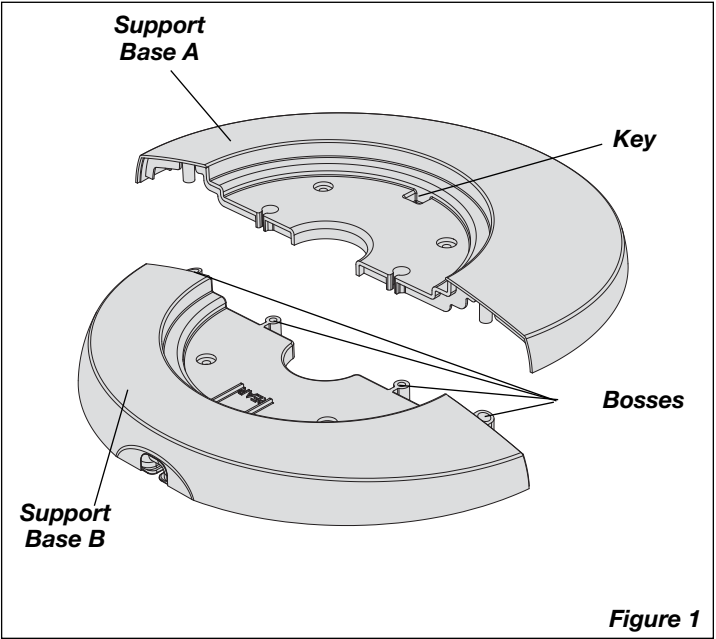
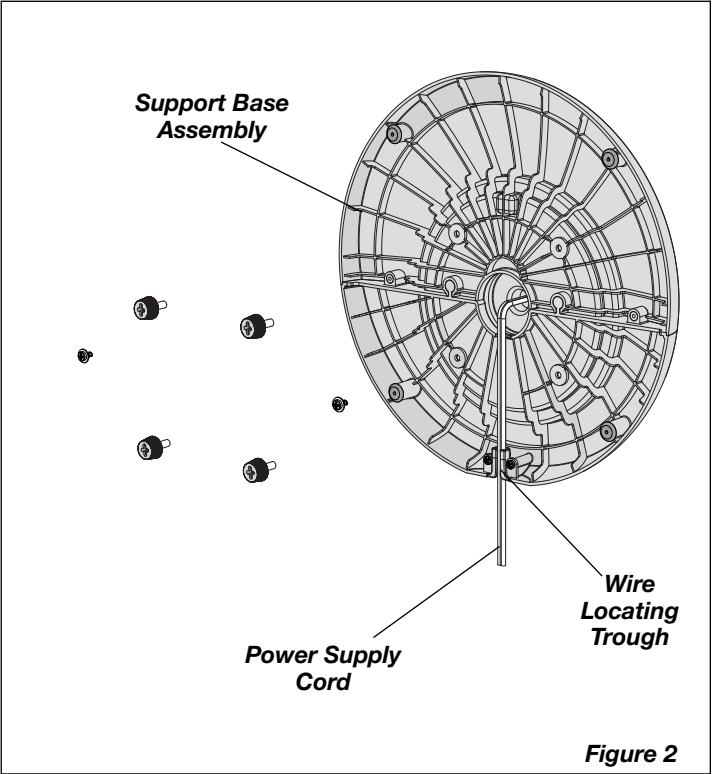

Figure 1
Figure 2
- 2. Assemble the Support Base Halves by interlocking the Bosses on Support Base A into the Boss Holes on Support Base B. Thread the Power Supply Cord through the large hole in the center of the Support Base Assembly. (Figure 1)
- 3. Secure (2) #8 X 3/8" Screws into the two outer holes in the bottom of the Base. (Figure 2)
- 4. Align the Support Base Assembly with the Motor Base, noting that the cord channel on the bottom of the support base assembly should be towards the back of the Fan. Attach the Support Base Assembly to the Motor Base with Thumb Screws. Make certain to align the Key on the Support Base Assembly with the Locating Notch on the Motor Base. (Figure 1) Gently pull any excess slack of the Power Supply Cord and place it in the Wire Locating Trough. (Figure 2)